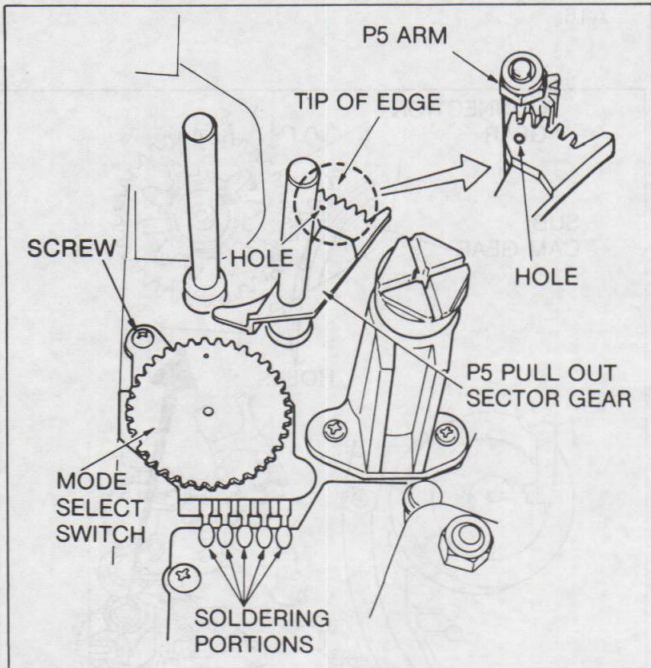

Fig. A17
2. Install the P5 Pull Out Sector Gear so that the hole of P5 Pull Out Sector Gear is exactly in line with the tip of edge at P5 gear as shown in Fig. A17.